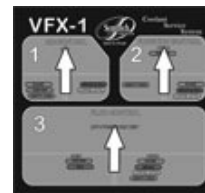

Figure 6
- 5) Return all control panel valves to neutral position, (Fig 6) and BLACK/USED coolant flow control valve at hose end OFF.